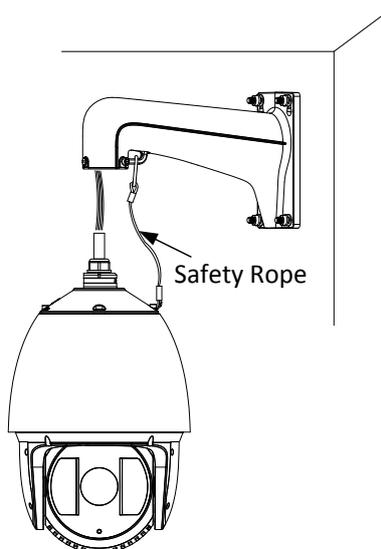

Figure 3-22 Install the Speed Dome
- 1) Hang the safety rope to the speed dome and the hook on the bracket as shown in Figure 3-22.